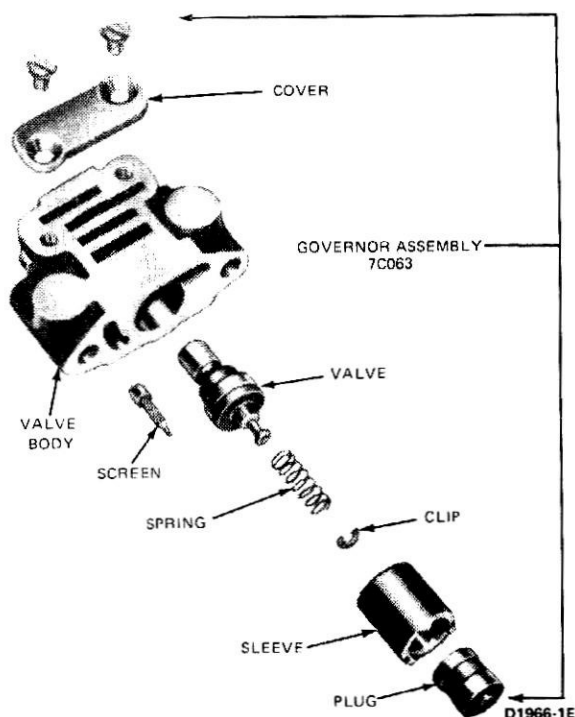

FIG. 30 Governor Disassembled
3. Remove the plug, sleeve, and the valve and spring from the body (Fig. 30).
2. Install the screen (Fig. 30).